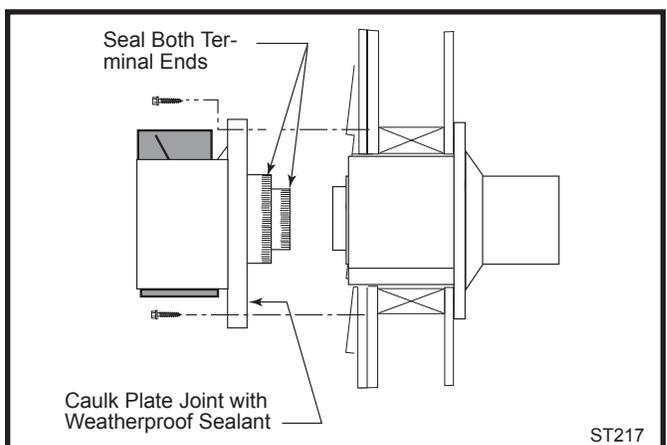

Fig. 28 Install the vent terminal.
10. **For both MHSC and DuraVent Systems:** Install the vent terminal. (Fig. 28) Apply high temperature sealant one inch from the ends of the inner and outer collars. Guide the inner and outer vent termination collars into the adjacent pipes. Double check that the vent pipes overlap the collars by 2". Fasten the termination to the wall with the screws provided, and caulk the joint with weatherproof sealant.